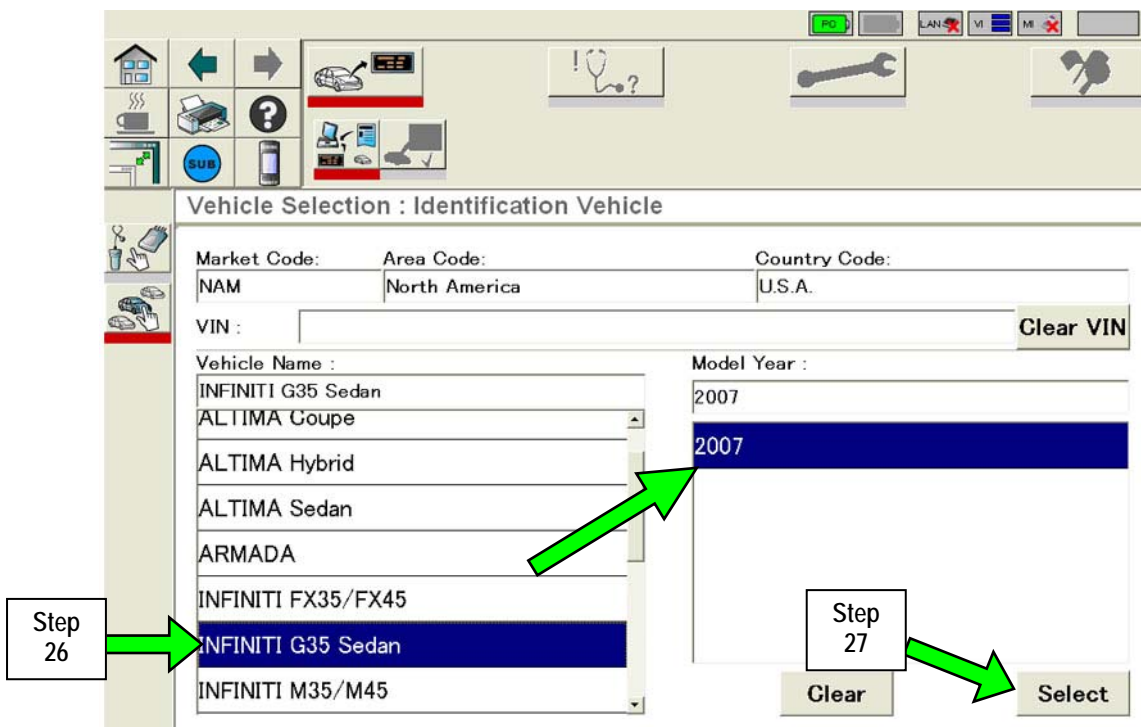

Figure 11
26. Select the correct vehicle from the list (see Figure 11 example).